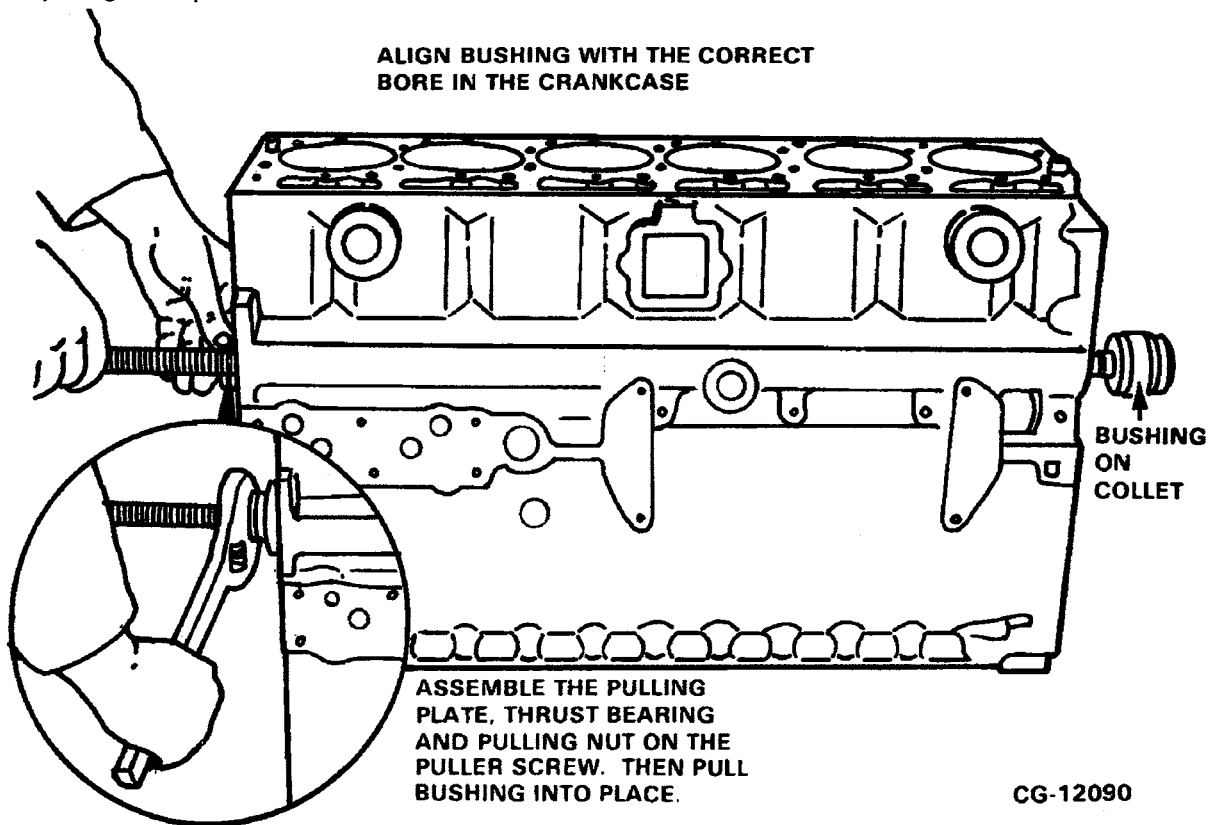

Figure 5.25. Camshaft Bushing Installation
5. Install the rear intermediate bushing through the front of the crankcase, then pull it into place at the rear of the crankcase by turning the pulling nut on the puller screw. Refer to Figure 5.25. Remove the tool and inspect oil hole alignment.
6. Install the front intermediate bushing next. Install through the front of the crankcase and pull into place from the rear. Refer to Figure 5.25.